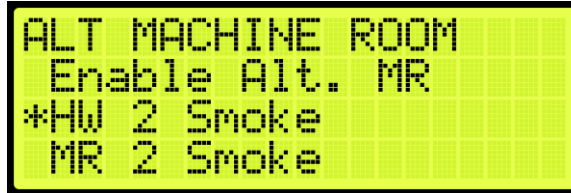

Figure 567: ALT MACHINE ROOM Menu – HW 2 Smoke
3. From the ALT MACHINE ROOM menu, scroll and select HW 2 Smoke (See Figure 567).